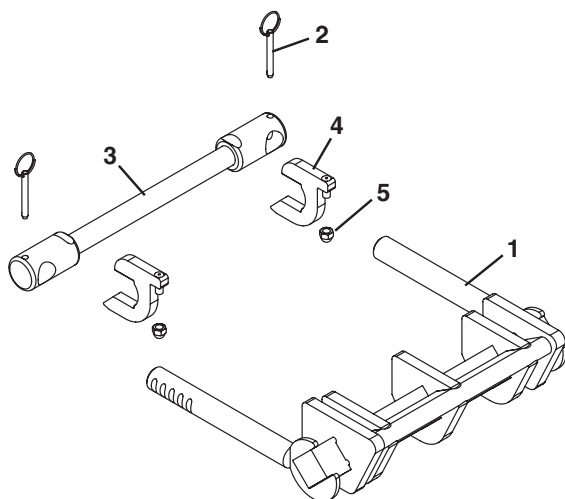

Figure 24
Typical Nose Bar Tip Up Tail Components (Figure 24)
*Adjust the acorn nuts (**Figure 24, item 5**) on the key stops (**Figure 24, item 4**) to raise or lower the tip up tail assembly.*